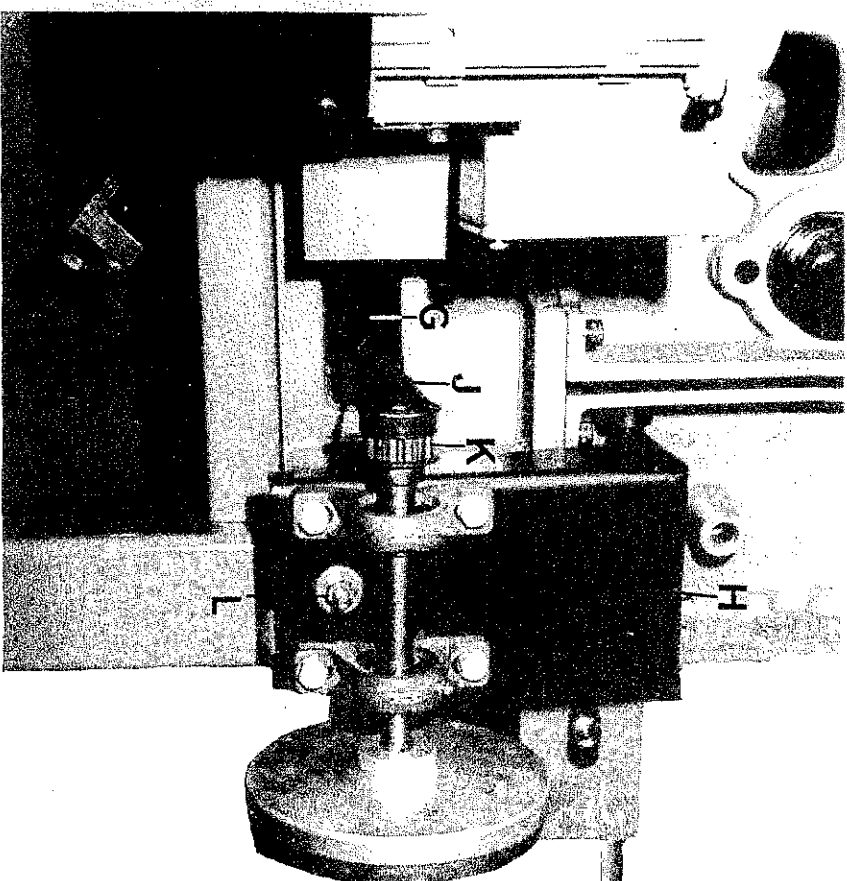

FIG. 26
- d) Remove 2 - M6 button head screws from cover to give access to rise and fall spindle pulley "G" FIG.26.